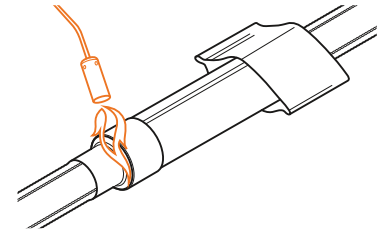

Fig. B11.1.9
9. Using a gas burner, shrink down the heat shrink band, ensuring that the flame is moving continuously - evenly heating around its circumference (Fig. B11.1.9). It is important to keep the flame moving to prevent localised overheating. The distance between the gas burner and heat shrink band surface should be around 100-150 mm. Repeat the same steps to shrink down the second band.